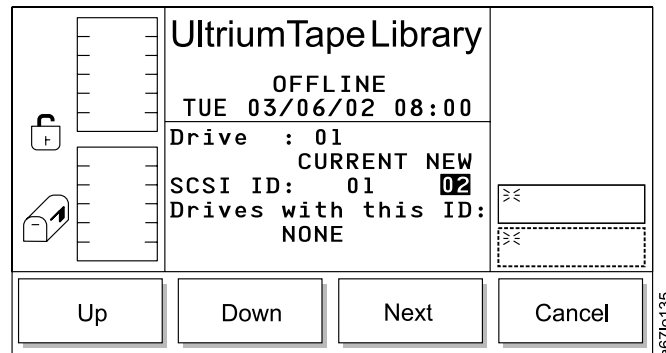

Figure 51. Drive SCSI ID Dialog
1. Press the button below the **Next** softkey. The Drive SCSI ID Dialog displays (see Figure 51).